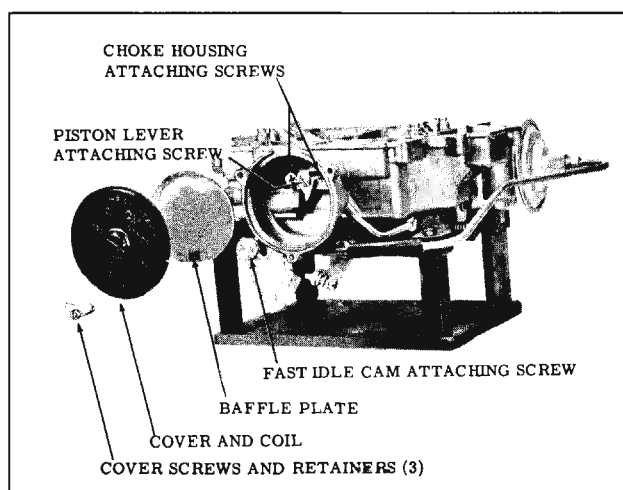

Fig. 9-9 Choke Assembly and Fast Idle Cam
1. Remove the fast idle cam attaching screw. (Fig. 9-9)